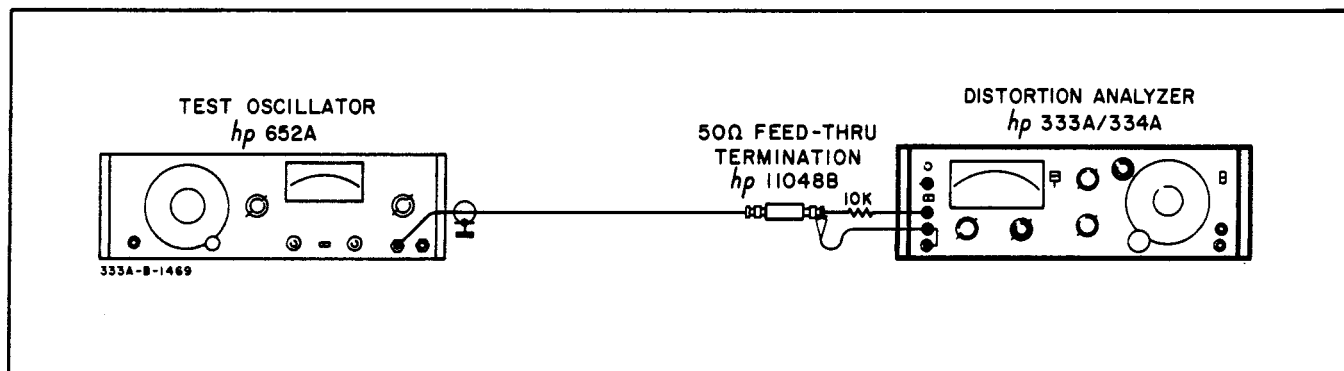

Figure 5-5. Capacitance Check
- a. Connect 50 Ω output of test oscillator, terminated in 50 Ω load, and 10 k Ω resistor to 333A/334A as shown in Figure 5-5. Connect the resistor lead to the INPUT terminal of the 333A/334A, and insert the other lead directly into the 50 Ω load. Connect the ground lead from the 333A/334A to the outer shield of the 50 Ω load; do not use an adapter, as it would add capacitance.